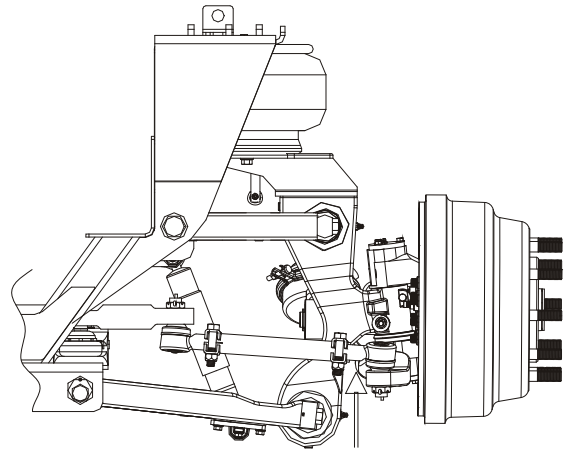

Figure 6 - Tie Rod
1. With the engine on, lightly rock the steering wheel and have an assistant observe any looseness in the two mating tapers or any movement of the stud nut at both ends of the tie rod. (Figure 6). If looseness is found in either place go to step 2, otherwise skip to step 3.
3. With the engine off and the wheels steered straight ahead, grab the tie rod near its end and try to move the socket in a direction parallel to the ball stud axis. (**Figure 6**). Be sure to only apply hand pressure to the tie rod.
6. Check tie rod clamp orientation (Figure 6)